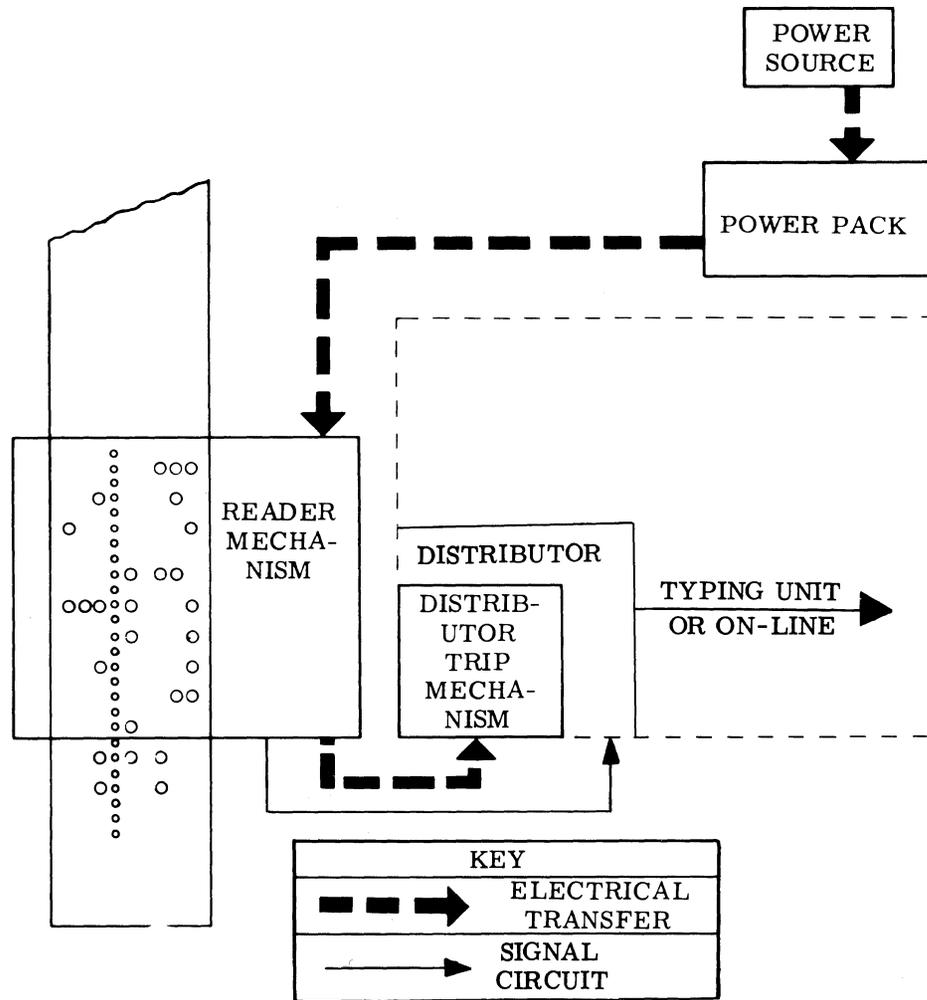

Figure 2 - Tape Reader Package with Major Mechanisms
3.02 The tape reader package consists of three mechanisms; the reader mechanism, the power pack, and the distributor trip mechanism (Figure 2).